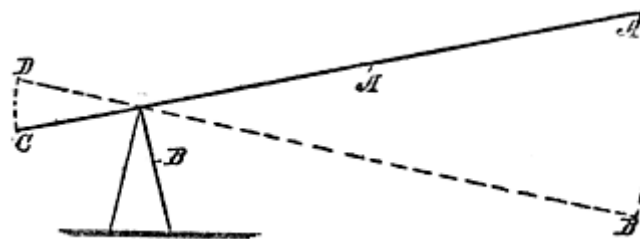

Fig. 127. Lever Action
First: Look at Fig. 127; the distance traveled. The long end of the lever is at its highest point, which is A; and the short end of the lever is at its lowest point C. When the long end of the lever is pushed down, so it is at B, it moves four times farther than the short end moves upwardly, as the distance from C to D is just one-fourth that from A to B. The energy expended in moving four times the distance balances the power gained.
THE LEVER AND THE PULLEY.—If we should substitute a lever (D) for the pulleys, the similarity to the lever (Fig. 127) would be apparent at once. The pivot (C) in this case would act the same as the pivot (C) in the lever illustration.